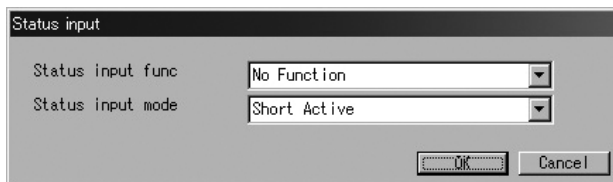

Fig.34
- ⑥ After clicking on "OK" button, the message box for filling in fields of items appears again. Click on "Cancel" button to hide the message box for filling in fields of items. To abort the setup process, click on "Cancel" button in the course of steps ② through ④ .
- ① Click on "Setup (S)" at top-level menu of the screen, select "Status input" from "Config output" drop-down list, and click on again.
- ② A message box as shown in Fig. 34 appears. Status input function is set up at this window.